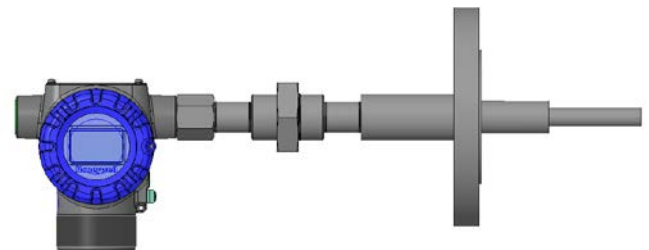

Figure 3: Transmitter with Flanged Thermowell
- Drilled Flanged assembly with thermowell and extension (Figure 3)